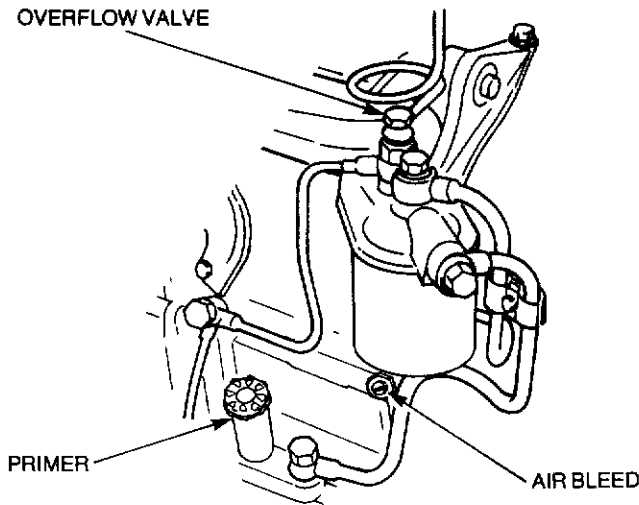

Figure 3-2 Bleeding the fuel system
- Loosen the overflow valve on the fuel filter adapter (see Fig 3-2) and continue operating the primer until a solid stream of fuel flows from the valve.